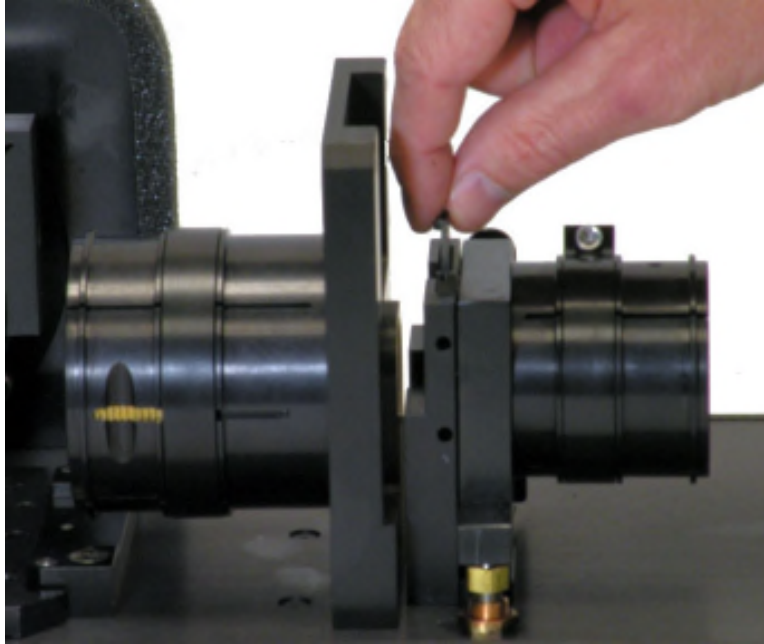

Figure 4-2. Installing the slit.
- 1** Make sure that the slit-locking setscrew (Figure 4-2) is loosened. If not, loosen it using a 0.035" Allen key.